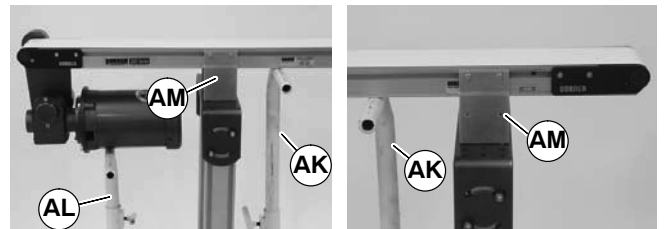
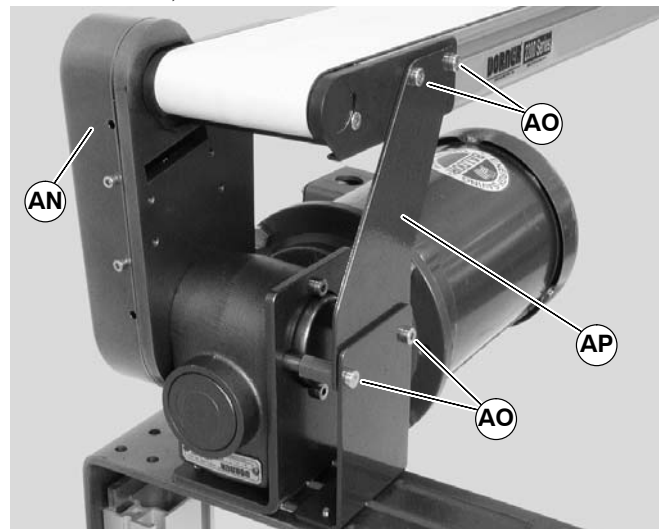

Figure 19
Figure 20
1. Place temporary support stands (AK of Figure 19) at both ends of the conveyor. Place an additional support stand under the drive motor (AL), if equipped. See **WARNING**.
2. Remove mounting brackets (AM of Figure 19) from one side of conveyor. (Reverse steps 3 & 4 of “Mounting Brackets” section on page 6.) If equipped with heavy load drive package, remove brackets from side opposite drive cover (AN of Figure 20).
4. If equipped, remove return rollers, guiding and accessories from side opposite drive cover (AN of Figure 20).
5. If equipped with heavy load drive package, remove drive support bracket (AP of Figure 20): Remove bracket screws (AO) then remove bracket (AP).
- Ensure temporary support stands (AK of Figure 19) are placed at both ends of the conveyor. Place an additional support stand under the drive motor (AL), if equipped. See WARNING.
- If equipped with a heavy load drive package, re-install drive support bracket (AP of Figure 20).